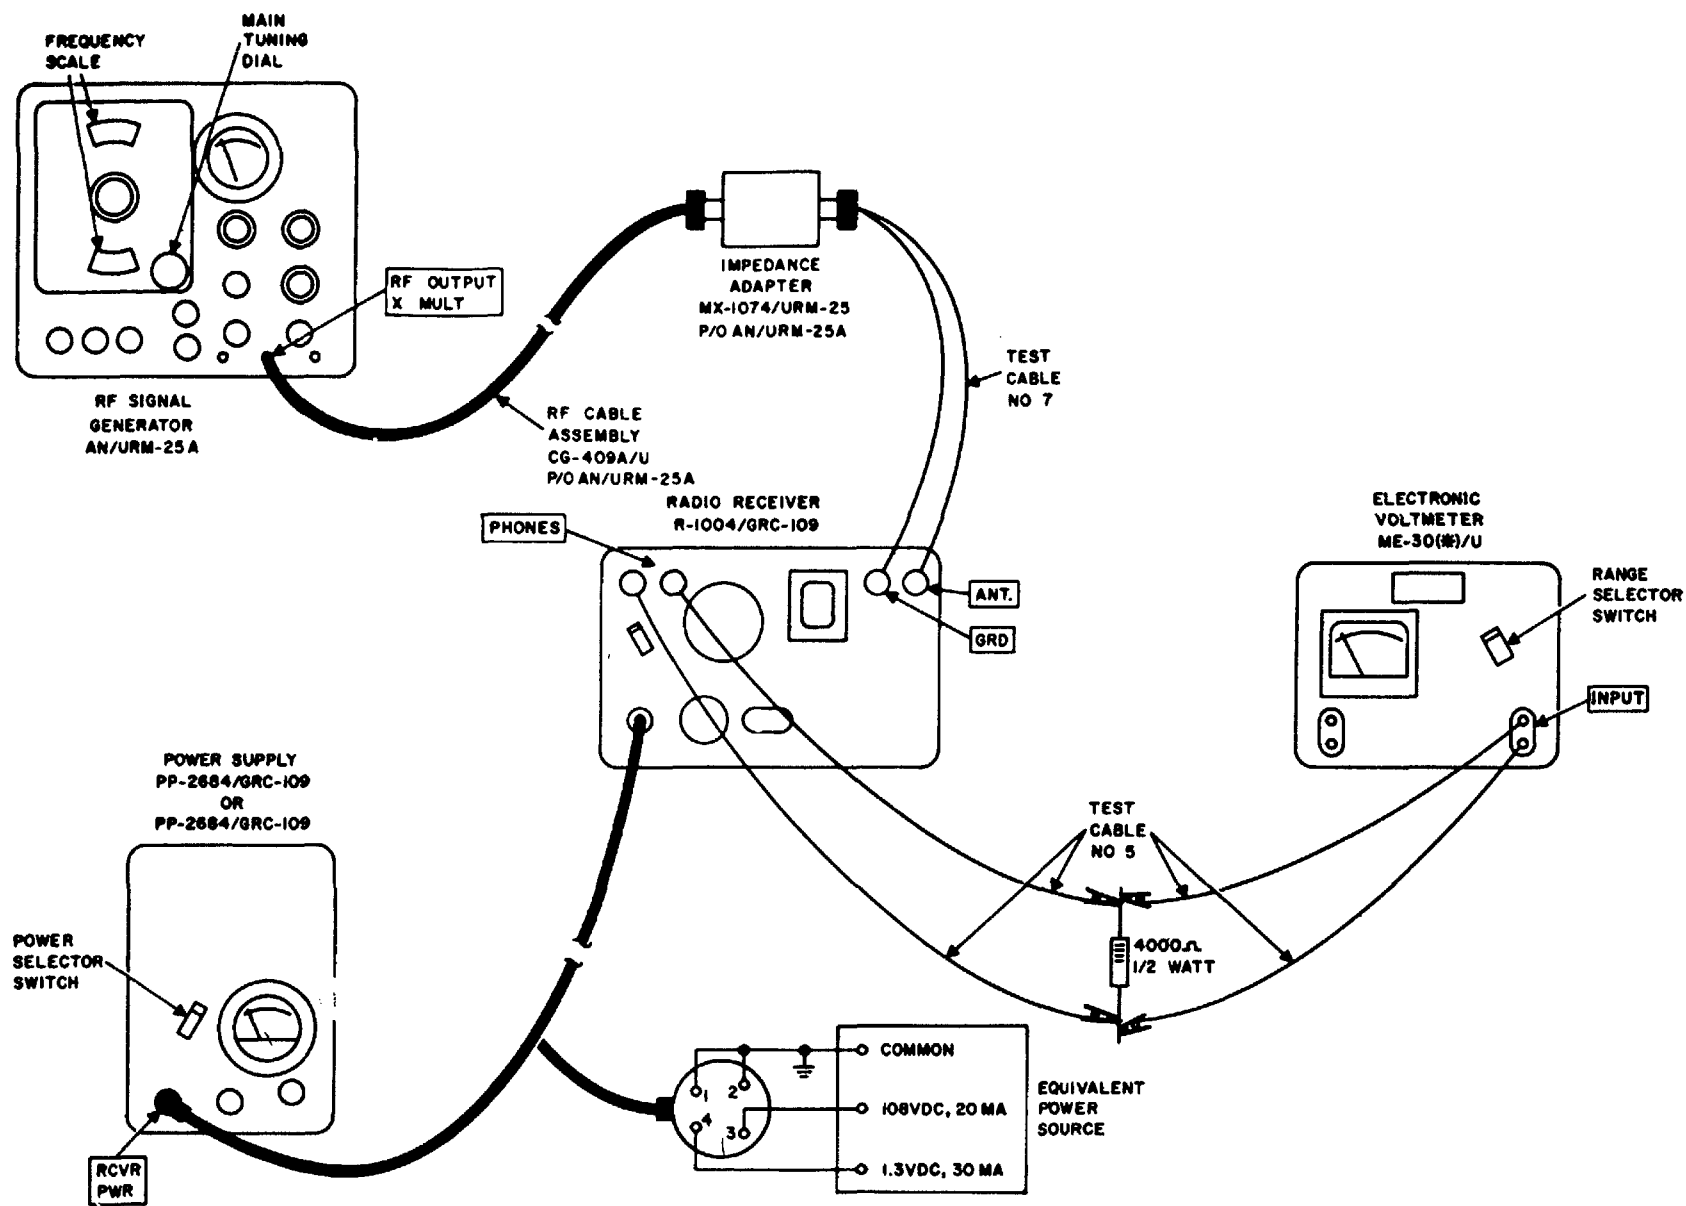

Figure 58. Receiver image rejection test.
b. Test Connections and Conditions. Connect the equipment as shown in figure 58. Turn on all equipment and allow 15 minutes to warm up before proceeding.